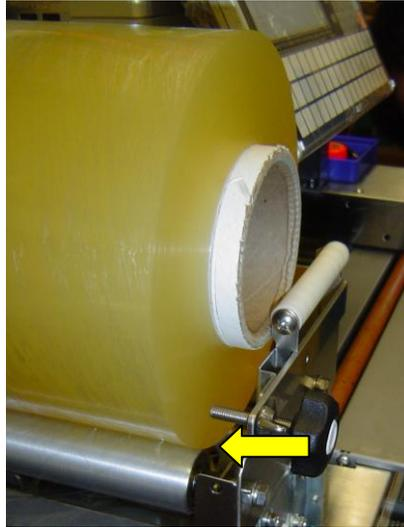

Figure 6.1.2. Front Roll Guide and Film Alignment
- b. Adjust the Front Guide to align the front edge of the film with the edge of the Support Roller. See Figure 6.1.2.